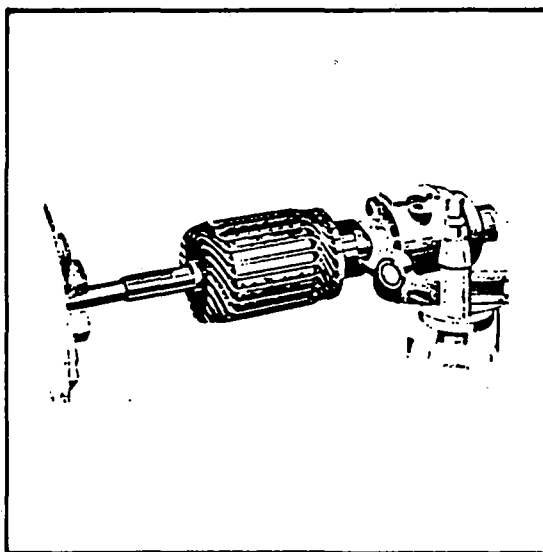

Figure 11-43. Turning Starting Motor Commutator
a. Check the commutator for uneven wear, excessive glazing or evidence of excessive arcing. If only slightly dirty, glazed or discolored, the commutator can be cleaned with 00 or 000 sandpaper. If the commutator is rough or worn, it should be turned in a lathe. Refer to Figure 11-43. The armature shaft should be inspected for rough bearing surfaces and rough or damaged splines.